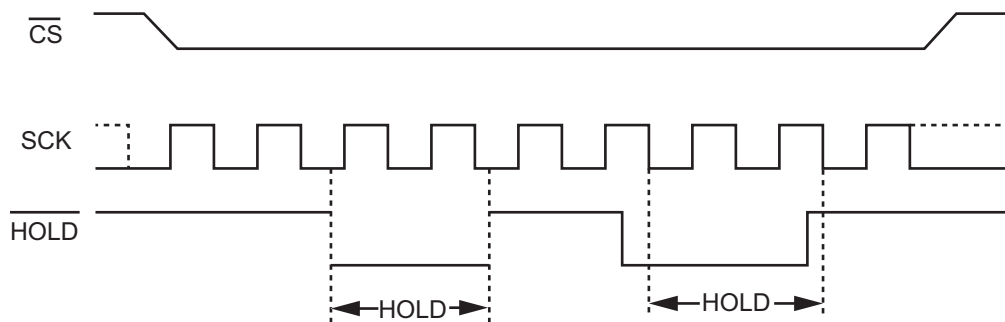

Figure 2. Hold Condition Activation
The Hold condition starts when the Hold (\overline{HOLD}) signal is driven Low at the same time as Serial Clock (SCK) already being Low (as shown in Figure 2).
The Hold condition ends when the Hold (\overline{HOLD}) signal is driven High at the same time as Serial Clock (C) already being Low. Figure 2 also shows what happens if the rising and falling edges are not timed to coincide with Serial Clock (SCK) being Low.